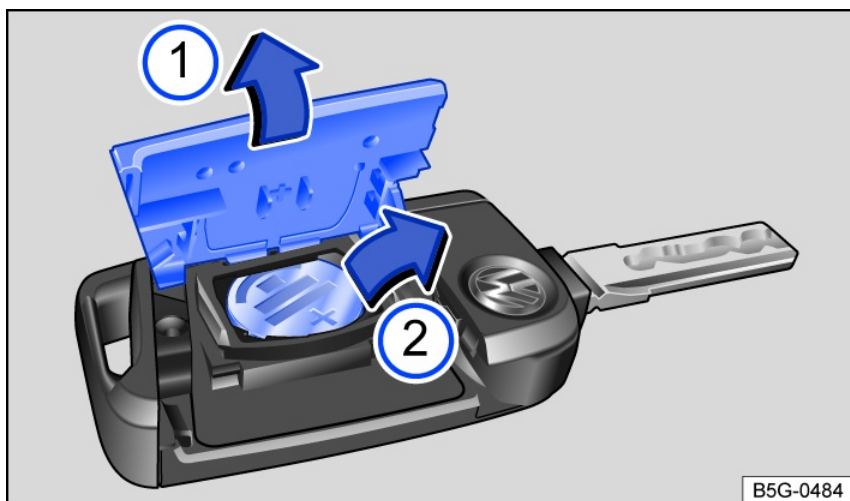

Fig. 51 Vehicle key: replacing the button cell battery
- Lever off the cover *fig. 51* ① ⇒ ⚠.
- Lift the button cell battery out of the battery compartment *fig. 51* ②.
- Press the cover onto the housing *fig. 51* ①.